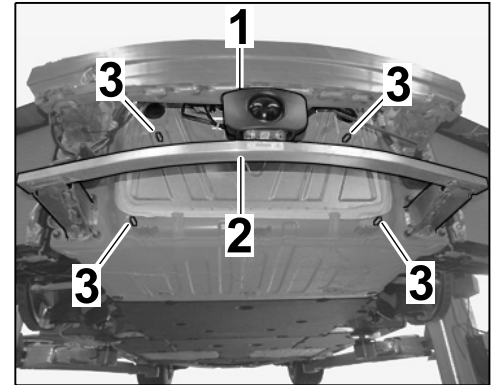

Figure 4
Remove control unit for distance measuring sensor (⇒ *Workshop Manual '278519 Removing and installing control unit for distance measuring sensor'*, ⇒ *Figure 4*).
1.7 Remove pedestrian protection (⇒ *Figure 4 -2-*; ⇒ *Workshop Manual '697019 Removing and installing pedestrian protection'*).